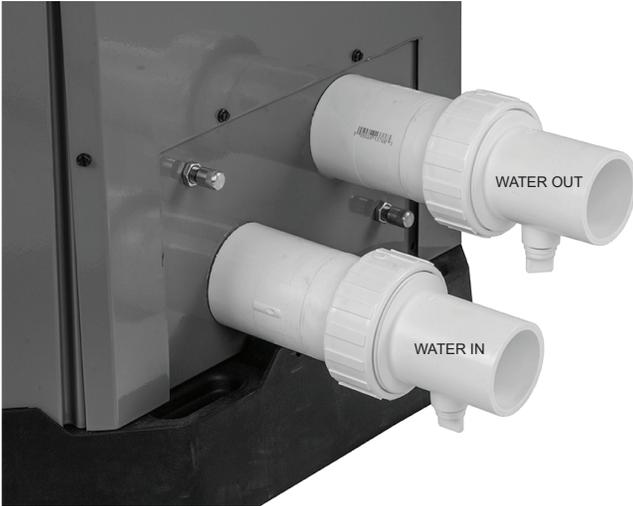

Figure 7. Water Connections/Drain Plugs
6. Drain plugs are located on each union fitting as shown in **Figure 7** for draining the system during winterizing.
NOTE: While it is possible to mount the upper union with the drain plug vertically, the manufacturer has determined that installing both unions with the drain plugs facing down as shown in Figure 7 provides for the best draining of the system.